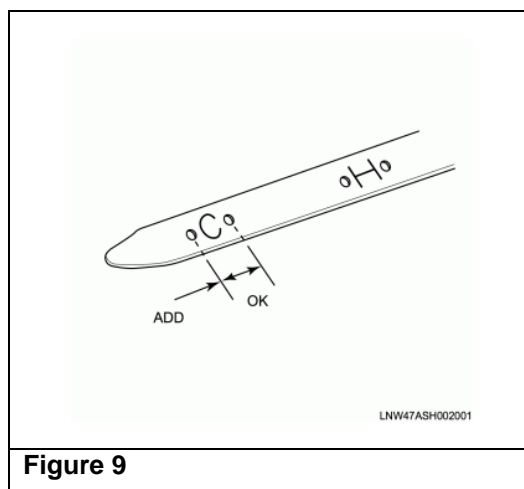

Figure 9
- Remove the transmission level gauge and wipe off any debris/excess ATF with a clean towel. Completely reinsert the transmission level gauge into the gauge tube and remove it again. If the TFT value in IDSS is "COLD" 68°F-86°F (20°C-30°C), the ATF level on the gauge should be within the "C" mark (see Figure 9). A preliminary adjustment can be made here only if the TFT value is in the specified range. Once the TFT value is in the specified range, wipe off any debris/excess ATF from the transmission level gauge and securely reinsert it into the gauge tube.